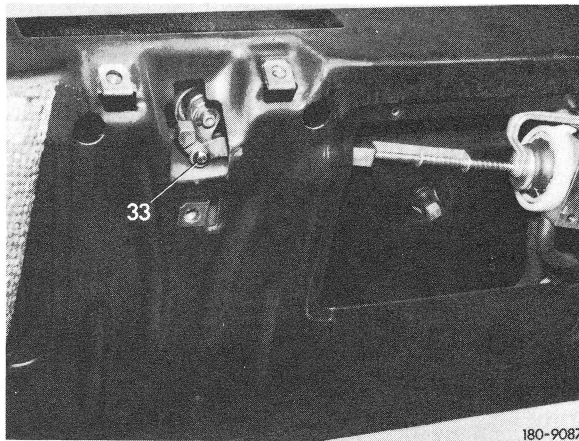

Fig. 3
7 Remove locking ring (33) of control rod (Fig. 3).
11 Introduce vacuum element into rear center piece, attach control rod and secure with locking ring (33) (Fig. 3).